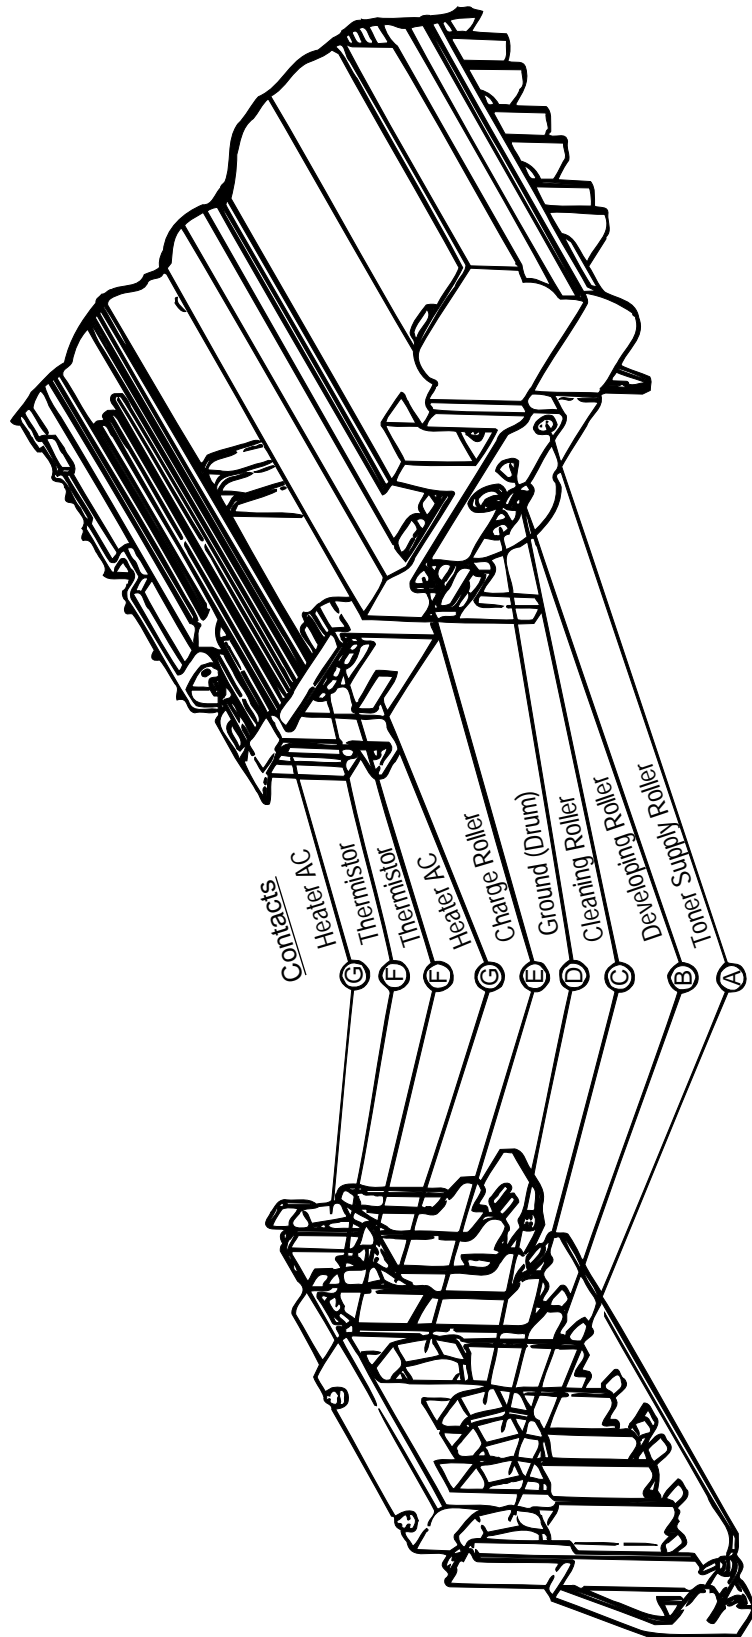

Figure 6-4
• Yes Check the heat contacts of the fusing unit and the contact assembly for poor contact (see Figure 6-4 contact ㉔).
• Yes Are the contact of the developing roller and the contact of the toner supply roller of the image drum cartridge in contact with the contact assembly properly (see Figure 6-4 (A) and (B))?